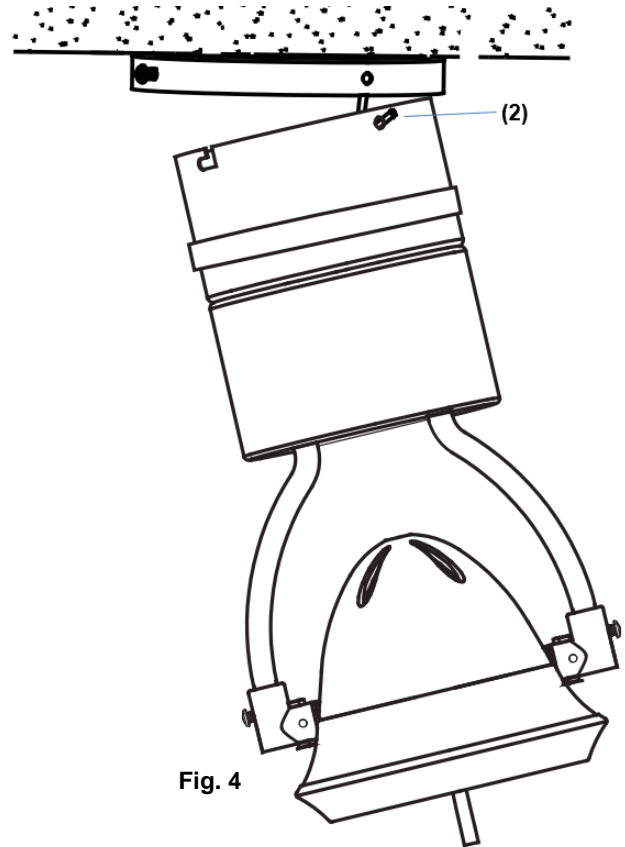

Fig. 4
- Lift the fan assembly up to the mounting bracket. Hang the fan assembly onto the J-hook (2) of the mounting bracket. (Fig.4)